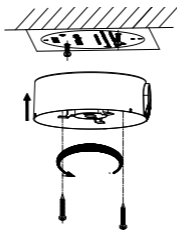

Figure 2-39 Fix the Junction Box
4. Attach the junction box to the ceiling and secure it by aligning the holes with two screws and rotating the junction box according to the direction as shown in Figure 2-39. Make sure the front arrows